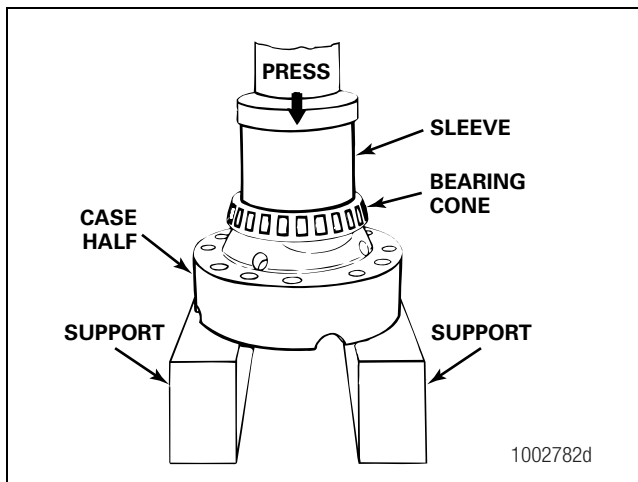

Figure 5.21
8. Use a press and the correct size sleeve to install the bearing cones onto both of the case halves. Figure 5.21.